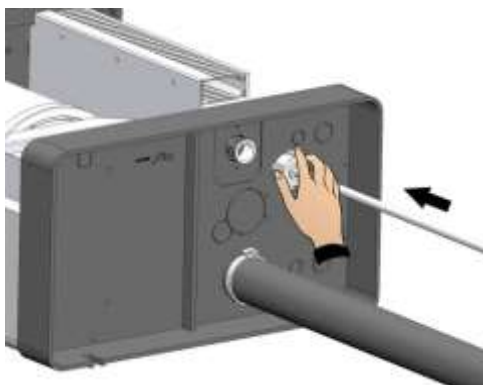

Fig. 11
7. Connect the water charge line to GAS  $\frac{3}{4}$  coupling of the electrovalve located under the humidifier (fig. 11 and 12).